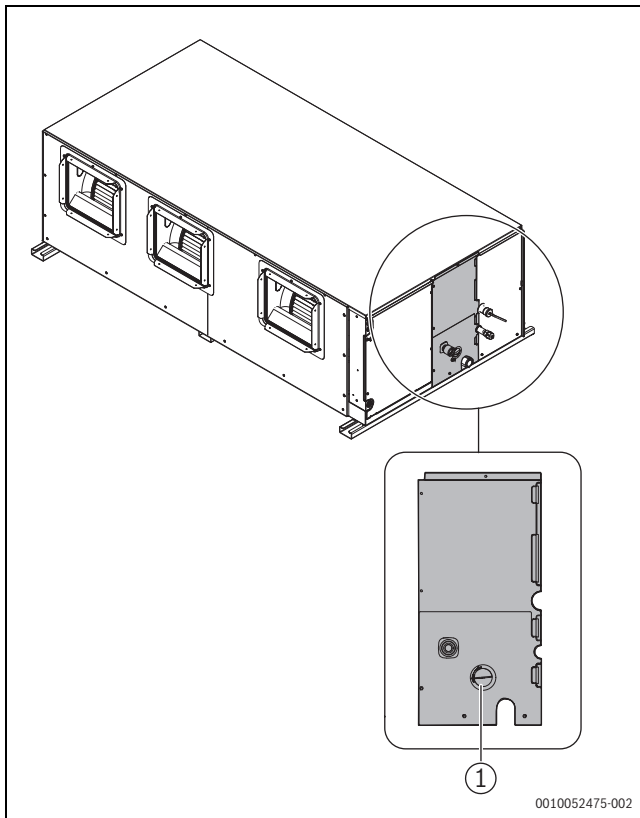

Fig. 27
- Open the test water cap (→ Fig. 27) on the machine body needs to be unscrewed during the drainage test to check whether the drainage pump is turned on and whether there is a problem with the drainage pump.